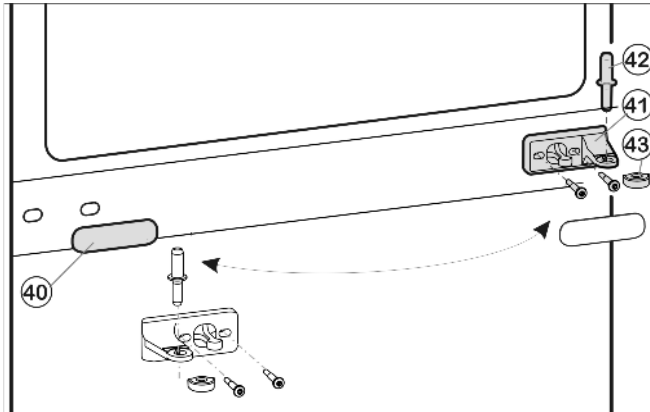
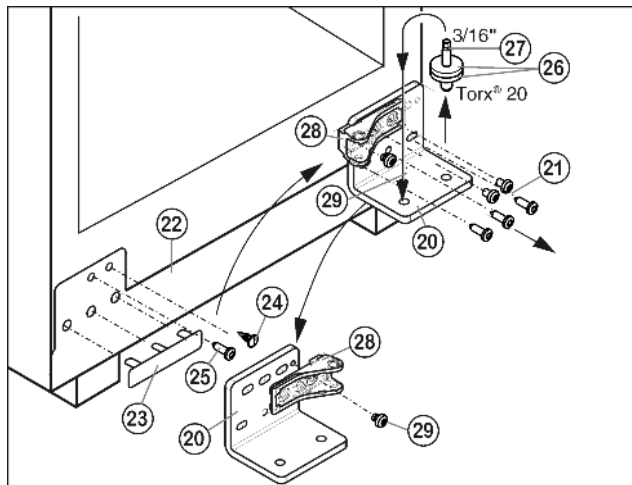

Fig. 18
Fig. 19
► Remove the center bearing pin *Fig. 18 (42)* from the bearing bracket and the lower door.
► Remove plastic cap *Fig. 18 (43)*.
- Carefully remove cover trim Fig. 18 (40).
- Turn the center bearing bracket Fig. 18 (41) with protective film 180°, move it to the other side and secure tightly on the new hinge side by **applying a screw torque of 3 lb-ft (4 Nm)**.
- Turn the cover trim Fig. 18 (40) 180° and snap it back into place on the new handle side.
- Unscrew bearing bracket Fig. 19 (20) together with bearing pin Fig. 19 (27). When doing so, hold panel Fig. 19 (22) steady so that it does not drop.
- Carefully lift off the cover on the handle side Fig. 19 (23) and the plug Fig. 19 (24) and move them to the opposite side.
- Unscrew screw Fig. 19 (25) and move it to the opposite side. When doing so, hold panel steady so that it does not drop.
- Unscrew bearing part Fig. 19 (28), turn it 180° and tighten Fig. 19 (29).
- Remove the bearing pin Fig. 19 (27), move it to the other side along with the bearing disc and bearing ring Fig. 19 (26) and secure **tightly to 3 lb-ft (4 Nm)**.
- Using a cordless screwdriver if necessary, tightly secure Fig. 19 (21) the bearing bracket Fig. 19 (20) on the new hinge side again by **applying a screw torque of 3 lb-ft (4 Nm)**. First fit the lower center screw, then the other screws.
- Position the door from above onto the lower bearing pin Fig. 19 (27).
- Place the plastic cap Fig. 18 (43) back onto the center bearing bracket Fig. 18 (41).
- Insert the center bearing pin Fig. 18 (42) on the new hinge side through the center bearing bracket Fig. 18 (41) into the lower door.
- Position the door from above onto the center bearing pin Fig. 18 (42).
- ▶ Unscrew center screw on lower bearing bracket *Fig. 19 (20)*.
- ▶ Align the doors flush with the appliance housing using the two oblong holes in the lower bearing bracket *Fig. 19 (20)* and center bearing bracket *Fig. 18 (41)* as a guide if needed.